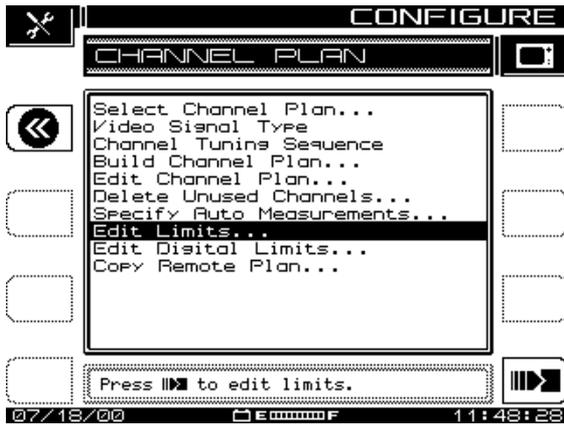

Fig. 3-2 The CHANNEL PLAN Menu Options
The screen displays the top-level CHANNEL PLAN menu shown in Fig. 3-2.
NOTE: If you have the QAM option, the CHANNEL PLAN menu will have an Edit Digital Limits option in addition to those shown in Fig. 3-2.
4. Press the Return soft key to return to the screen shown in Fig. 3-2, the CHANNEL PLAN menu.
From the CHANNEL PLAN menu (Fig. 3.2), select Video Signal Type and press the Enter key. The up and down diamond keys toggle between NTSC, PAL, and SECAM in the Edit Box.
At the CHANNEL PLAN menu (Fig. 3.2), select Channel Tuning Sequence and press the Enter key. The up and down diamond keys toggle between Numeric Order and Frequency Order.
Press the **OK** soft key and you're returned to the main CHANNEL PLAN screen shown in Fig. 3-2.